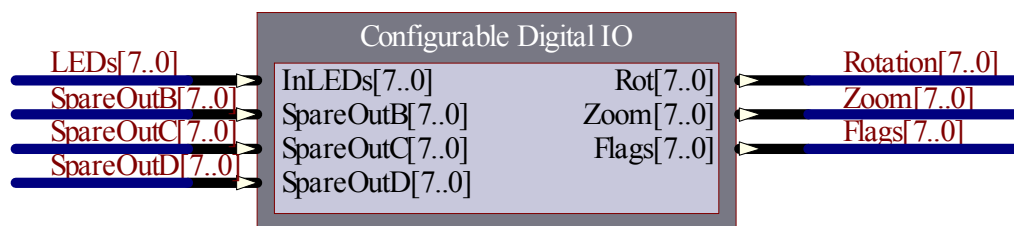

Figure 45. Wiring for the configurable digital IO
3. Wire the component as indicated in Figure 45. This will tie together the signals on our Wishbone Port IO device and the Configurable Digital IO instrument.